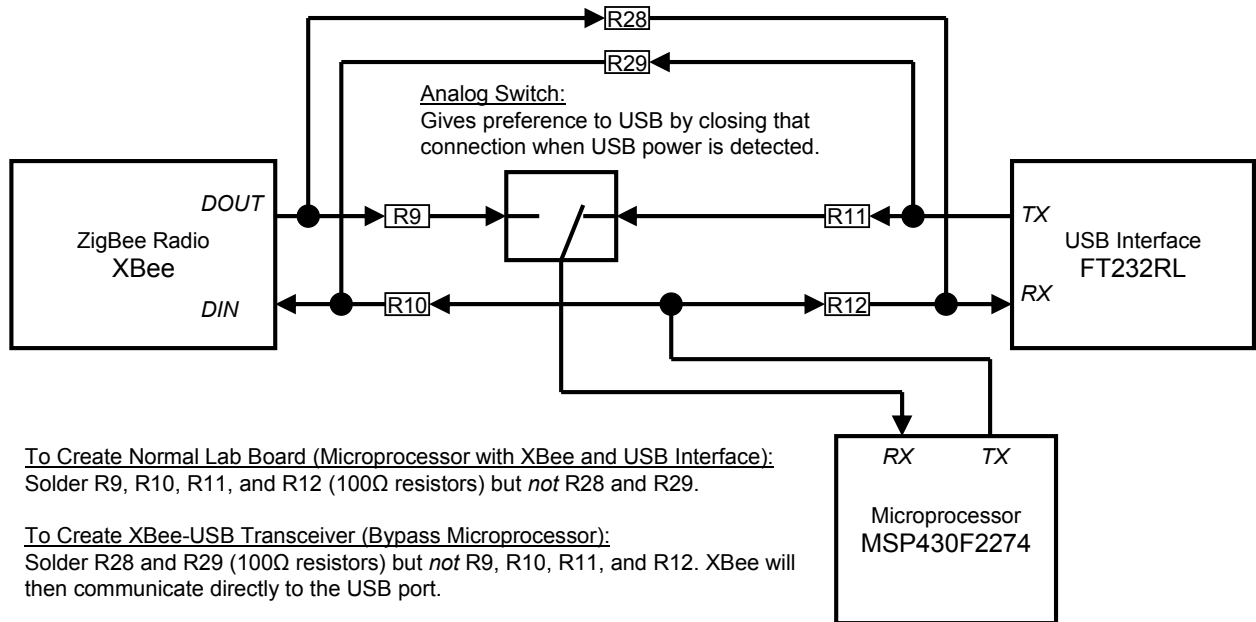

Figure 3: Simplified connection diagram between chips
- R20 and R29 are an optional connection between the XBee and the USB chip that bypasses the microprocessor. This connection turns this PCB into a wireless transceiver for a PC. This connection cannot be active at the same time as R9, R10, R11, and R12. A simplified connection diagram is shown in Figure 3.